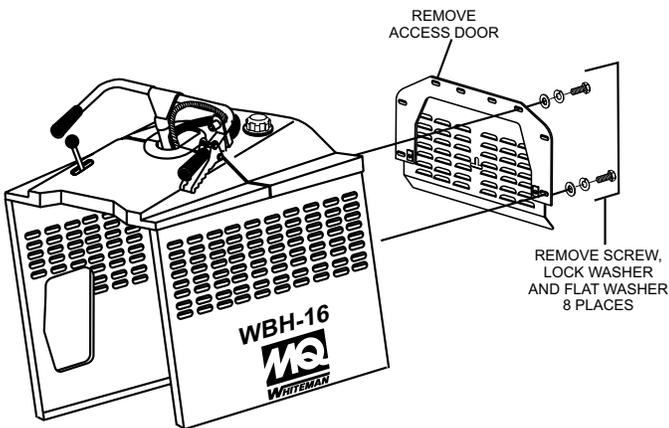

Figure 3. Removing Access Door
5. With the tub in the dump position remove the 8 screws and associated hardware that secure the access door (Figure 3) to the buggy.